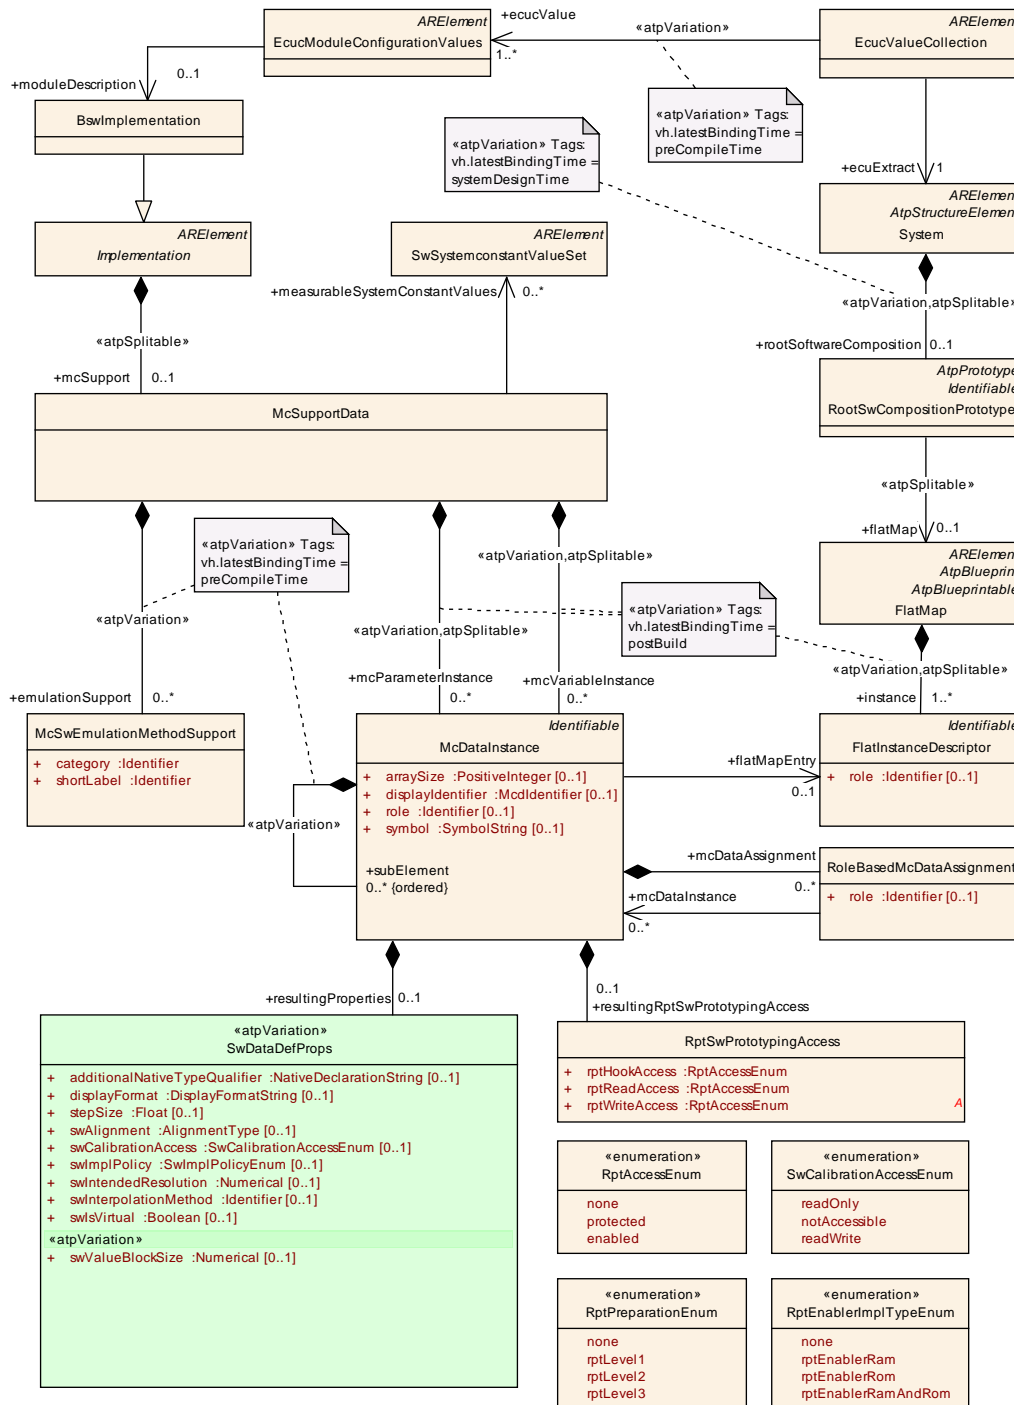

Figure 10.1: Calibration Support Data attached to Implementation
The resulting model is shown in an overview in figure 10.1, which illustrates also the placement in the context of an ECU configuration. As the figure shows, the root element of the MC support `McSupportData` is aggregated as `splitable` in an `Implementation`. This means, that one such element describes the calibration support for all data located in this implementation which could be a BSW module/cluster/library or an SWC as well. The `splitable`-stereotype allows, that the data can be defined as a separate artifact and at another point in time, than the `Implementation` itself. Especially, the support data for all calibration data located in the RTE shall be generated as part of the RTE’s own `BswImplementation`.
- As indicated in figure 10.1, the elements under `McSupportData` can still contain compile-time variation points. These need to be resolved in sync with the variants selected before compilation of the software, so that the generated A2L content corresponds to the actual code. Therefore, as long as the variants are not resolved, the variation points in the MC support artifact will depend on the system constants needed to resolve these variants.